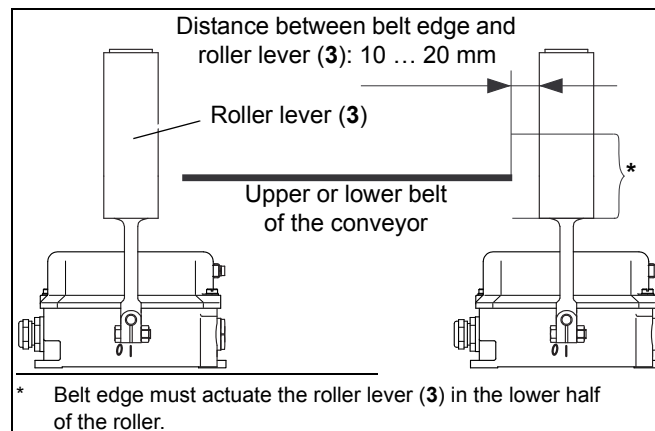

Fig. 5-2: Mounting paired belt misalignment switches on the conveyor
Make sure to mount the belt misalignment switch so that the belt edge actuates the roller lever (3) in the lower half of the roller when the belt deviates from its designed running line. This prevents the belt from sliding over the roller lever (3) (see fig. 5-2).
Belt misalignment switches are mounted in pairs on the upper belt in front of the drive roller, on the lower belt in front of the deflection roller and also at critical points where the axis distances are larger or material is transferred (see fig. 5-2).
In order to minimize roller lever (3) wear, mount the roller lever (3) in such a way that it is located approximately 10 to 20 mm in front of the belt edge (see figures 5-2 and 5-5).
3. Fit the roller lever (3) onto the shaft (14).